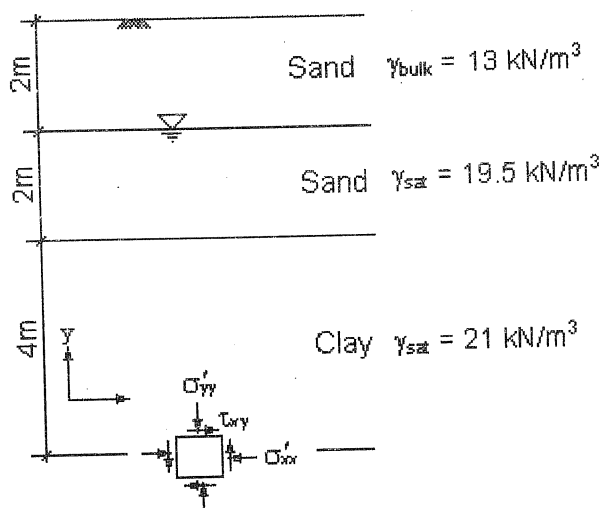

Figure Q2
2. Figure Q2 shows an element of clay located at a depth 8m from the surface. (2 points)